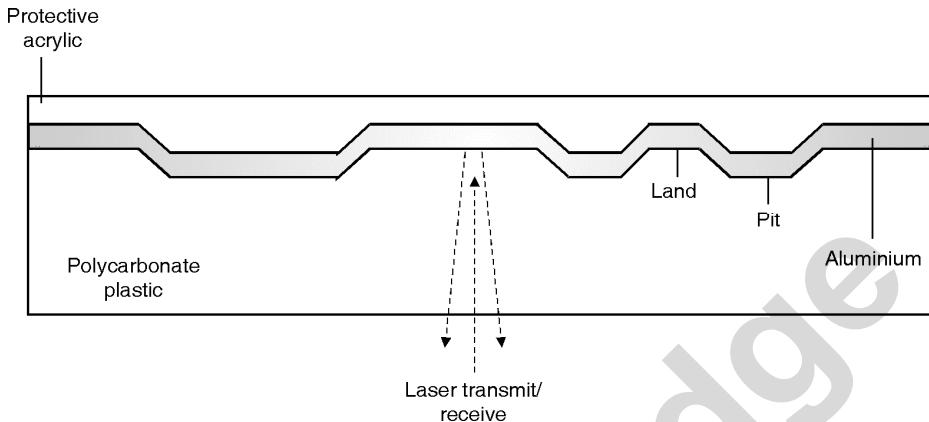

Fig. 11.4.6(a) : Construction of CD
- Fig. 11.4.6(a) shows that the CD is made up of three layers, namely the polycarbonate plastic, aluminium and the protective material like acrylic.
- In case if it is a land it will take more time to return while less time in case if it is a pit as seen in the Fig. 11.4.6(a).
- The data format on a CD-ROM is shown in the Fig. 11.4.6(b). Initially a data 00H is stored, followed by 10 bytes of FFH and again a 00H, called as the synchronous 12 bytes.